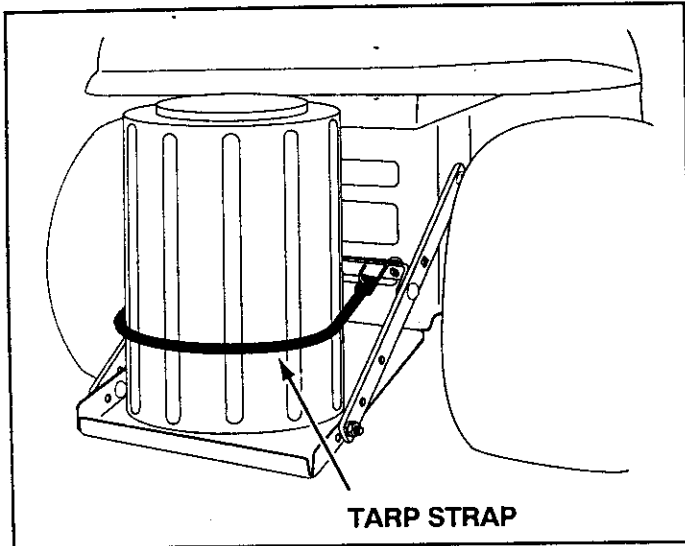

FIGURE 26
- Place the plastic keg on the weight tray. Secure the keg with the rubber tarp strap hooked into the holes in the cross brace. See figure 26.